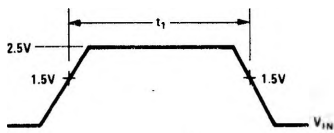

Figure 1
4. Set-up time(t_1) for input trigger pulse >40 ns. (See Figure 1)